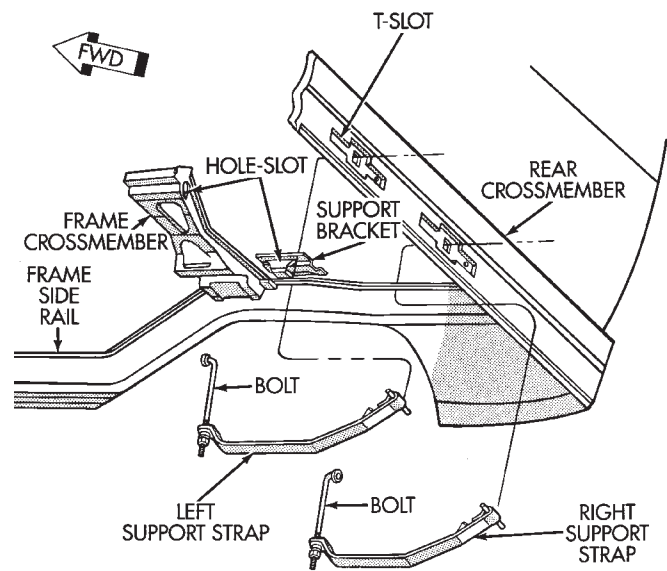

Fig. 9 Fuel Tank Support Straps—XJ Vehicles
(6) Remove the strap T-end from frame member T-slot (Fig. 9).
(7) Separate support strap from fuel tank and remove it from vehicle.